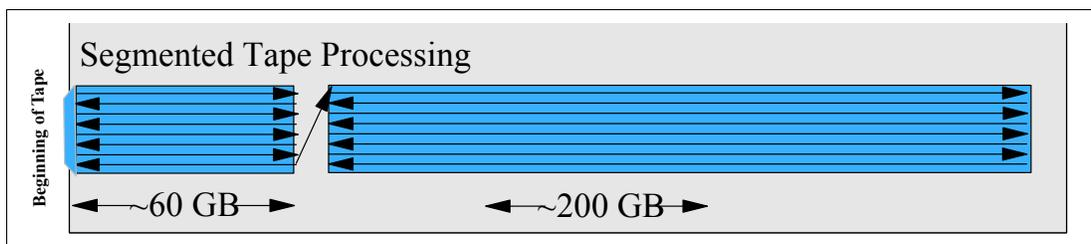

Figure 2-48 Segmented tape processing
*Segmentation* involves the 3592-J1A Tape Drive dividing the tape longitudinally into segments. The first segment has a native capacity of 60 GB and spans approximately the first 158 meters of tape. Remaining segments total the remaining native capacity of 240 GB to logical EOT. The drive automatically keeps writing from segment 1 on into segment 2 seamlessly; that is, the tape appears as a single logical partition to the host system (shown in Figure 2-48). Segmentation offers high-performance random access in the first segment (first 60 GB), as if it were a scaled cartridge, while still providing an additional 200 GB capacity. However, if fewer than 60 GB are written to the media, the user experiences greatly improved locate performance, because accesses are restricted to the first 158 m of tape.